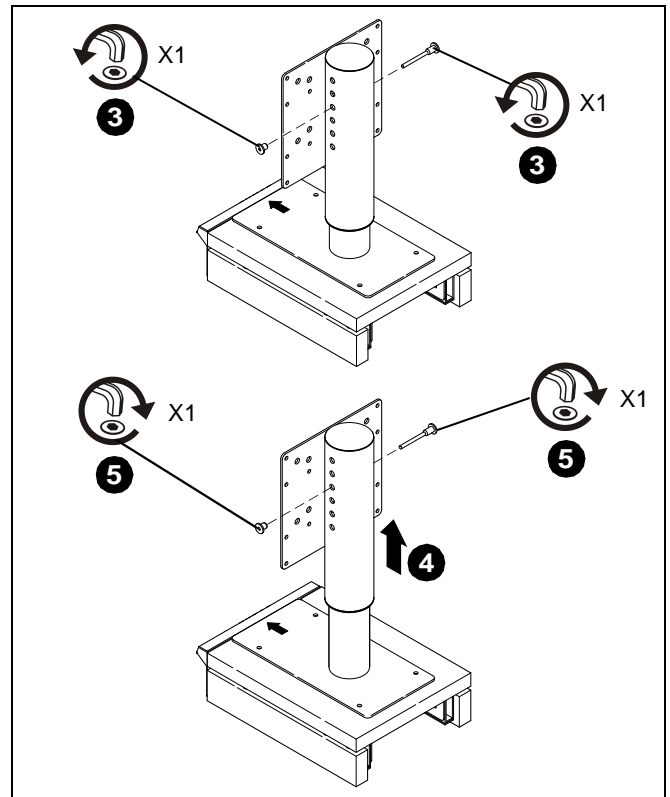

Figure 8
- Loosen and remove faceplate positioning pin and nut using hex wrench provided with mount. (See Figure 8)
- Raise faceplate to desired height. (See Figure 8)
- Install positioning pin through column and into positioning nut. (See Figure 8)